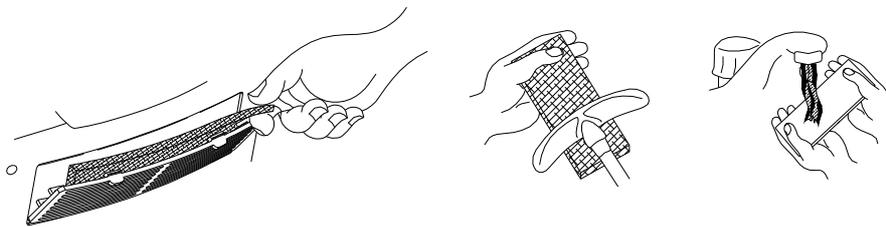

FIGURE 7 — REMOVE THE CABINET FILTERS
1. Remove the cabinet filter and **CLEAN AT LEAST ONCE A WEEK** depending on environmental conditions. (FIG.7)
2. Clean the cabinet filter with a vacuum cleaner or wash in warm soapy water and rinse thoroughly. (FIG. 7)